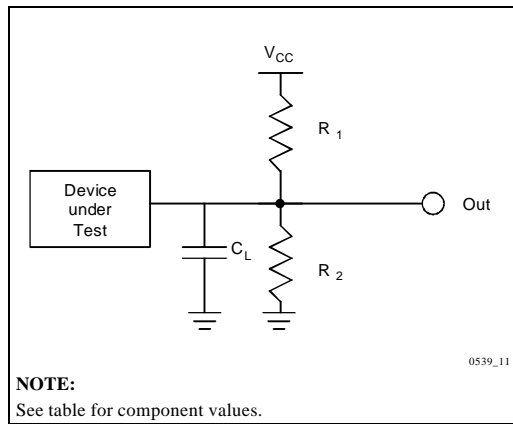

Figure 19. Test Configuration
5. See Test Configurations (Figure19), 2.7–3.6V and $3.3 \pm 0.3V$ Standard Test component values.
6. See Test Configurations (Figure19), 5V Standard Test component values.
9. See Test Configurations (Figure19), 2.7–3.6V and 3.3±0.3V Standard Test component values.
10. See Test Configurations (Figure19), 5V Standard Test component values.